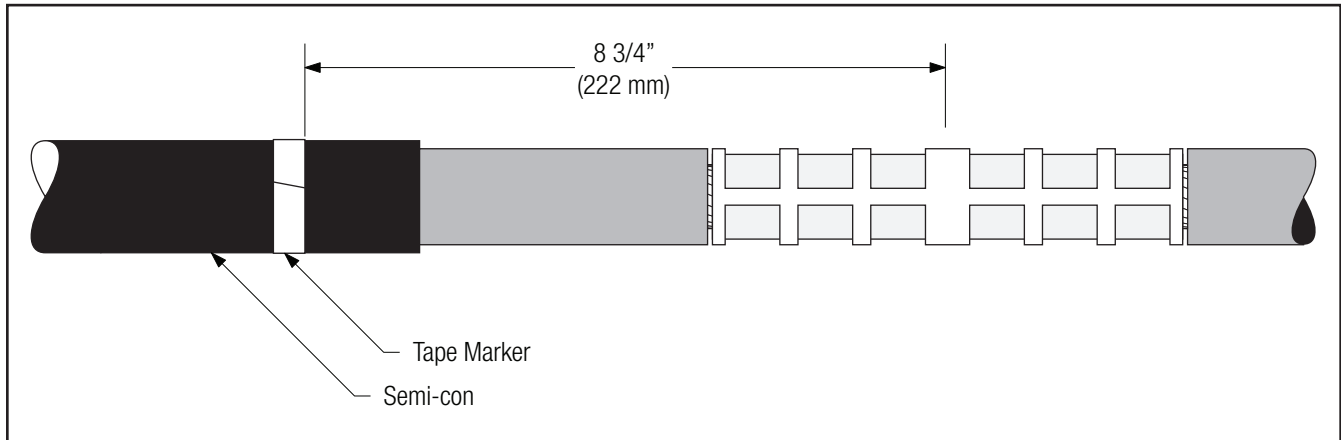

Figure 13
- 4.1 Apply a tape marker to semi-con insulation shield on cable which does not contain splice. Measure 8 3/4" (222 mm) from center of connector (*Figure 13*).